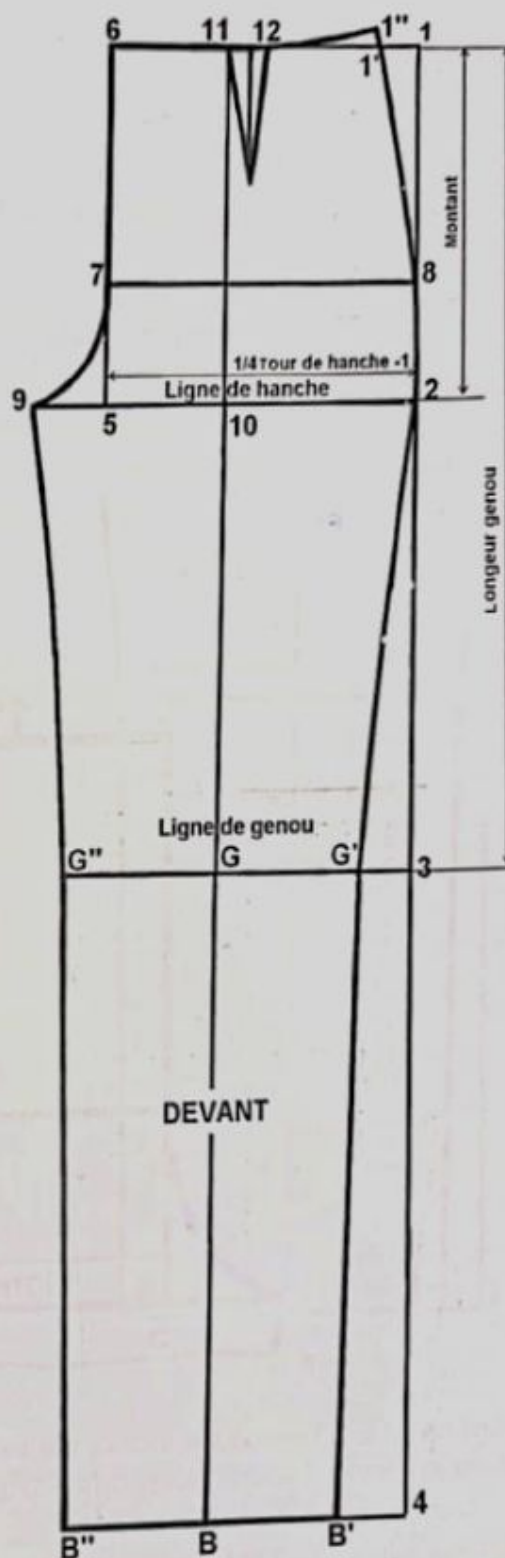

FIG. 3
**CONSTRUCTION DU DEVANT (fig.3)**